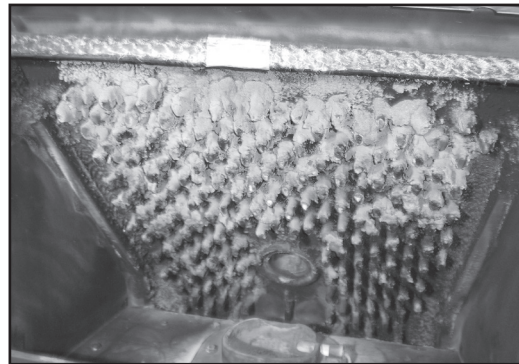

Figure 23.2 - Example of a dirty heat exchanger
- It is necessary to remove the baffle to gain access to the heat exchanger (**Figure 23.2**). Follow instructions for baffle removal on **page 26, figure 26.2**.
- Use the crevice tool to finish cleaning the heat exchanger fins. It is critical that the 2 exhaust exits at the back of the firebox floor (left and right) be thoroughly cleaned (**Figure 23.2**). There are several ways this can be done: